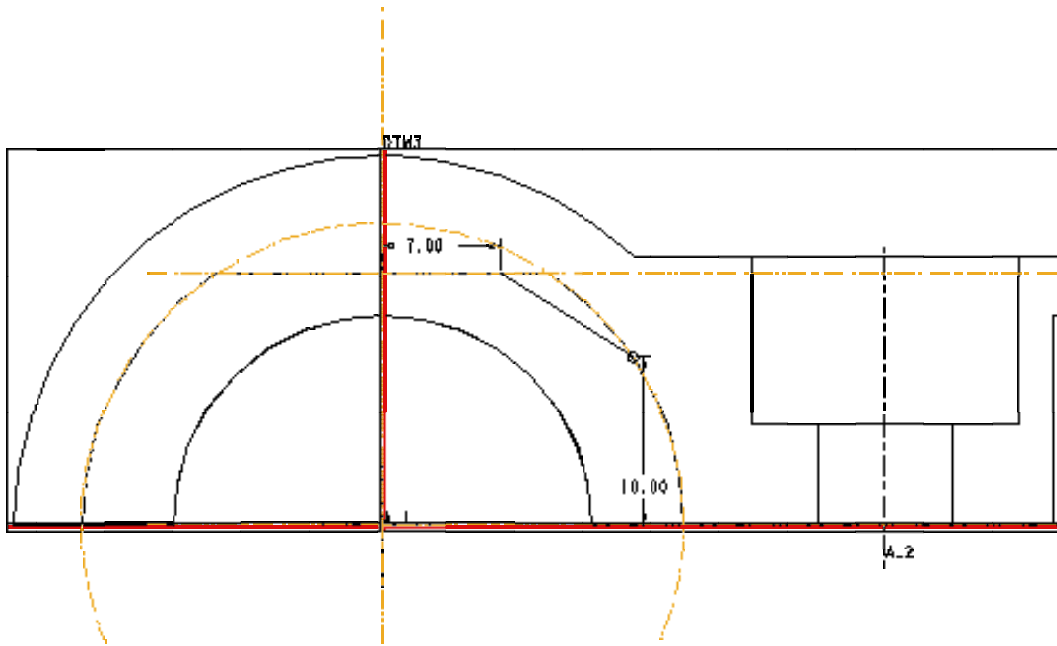

Figure 12: Sketch showing the simple definition required for a rib
6. Sketch a single line to represent the diagonal edge of the web and dimension as shown in Figure 12, 7 horizontal, 10 vertical.